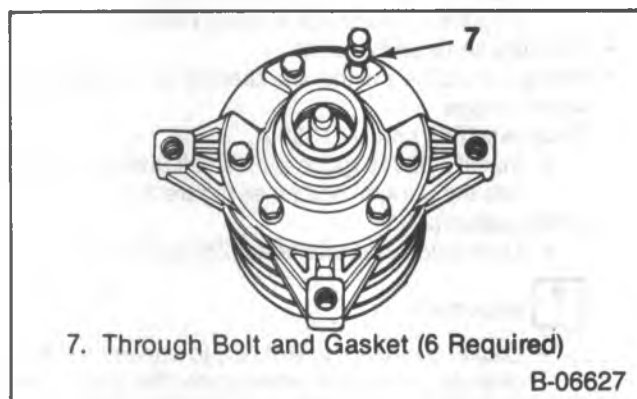

Figure 28 — Removing and Installing the Through Bolts in the Front Head
- 5. Through bolts (7) and gaskets (figure 28).